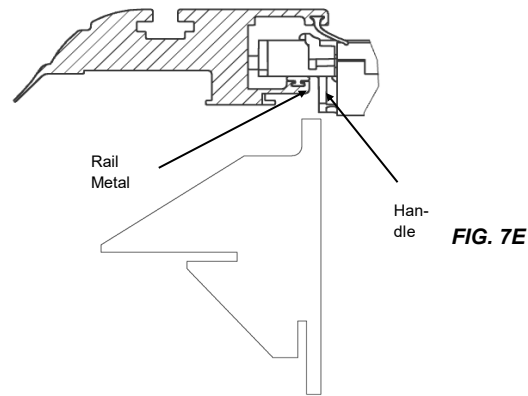
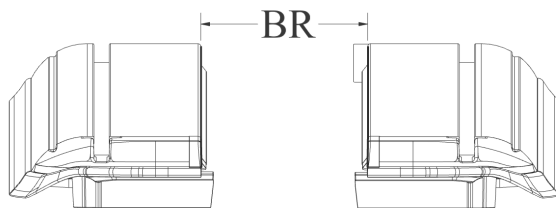

FIG. 7E
FIG. 7F
Now tighten your clamp turn knobs hand tight. Finally, check for proper spacing by measuring between the rails by attempting to insert the BR Gauge in between the rail metal and the handle stop (FIG 7E). You can also check the between the rail measurement at the canister and the tailgate end of the rails. The measurements should be equal to or less than those in Figure 7F. The Clamp Extensions have been pre-installed with brackets and shims to achieve the proper Between the Rail dimension (BR) when placed on an average factory truck bed. However, not all truck beds are average dimensionally and some have optional plastic caps or over the rail spray-in liners.